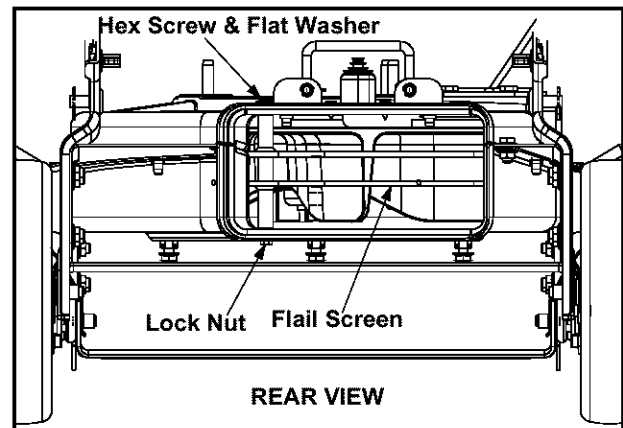

Figure 12
- Remove the vacuum bag or blower chute from the unit as instructed in the OPERATION section to obtain access to flail screen. See Figure 12.
- Remove hex screw and flat washer on top of rear housing near mounting bracket and the lock nut that secures flail screen. See Figure 12.
- Remove lock nut that secures flail screen to the lower housing. The flail screen does not have to be removed. Refer to Figure 12.